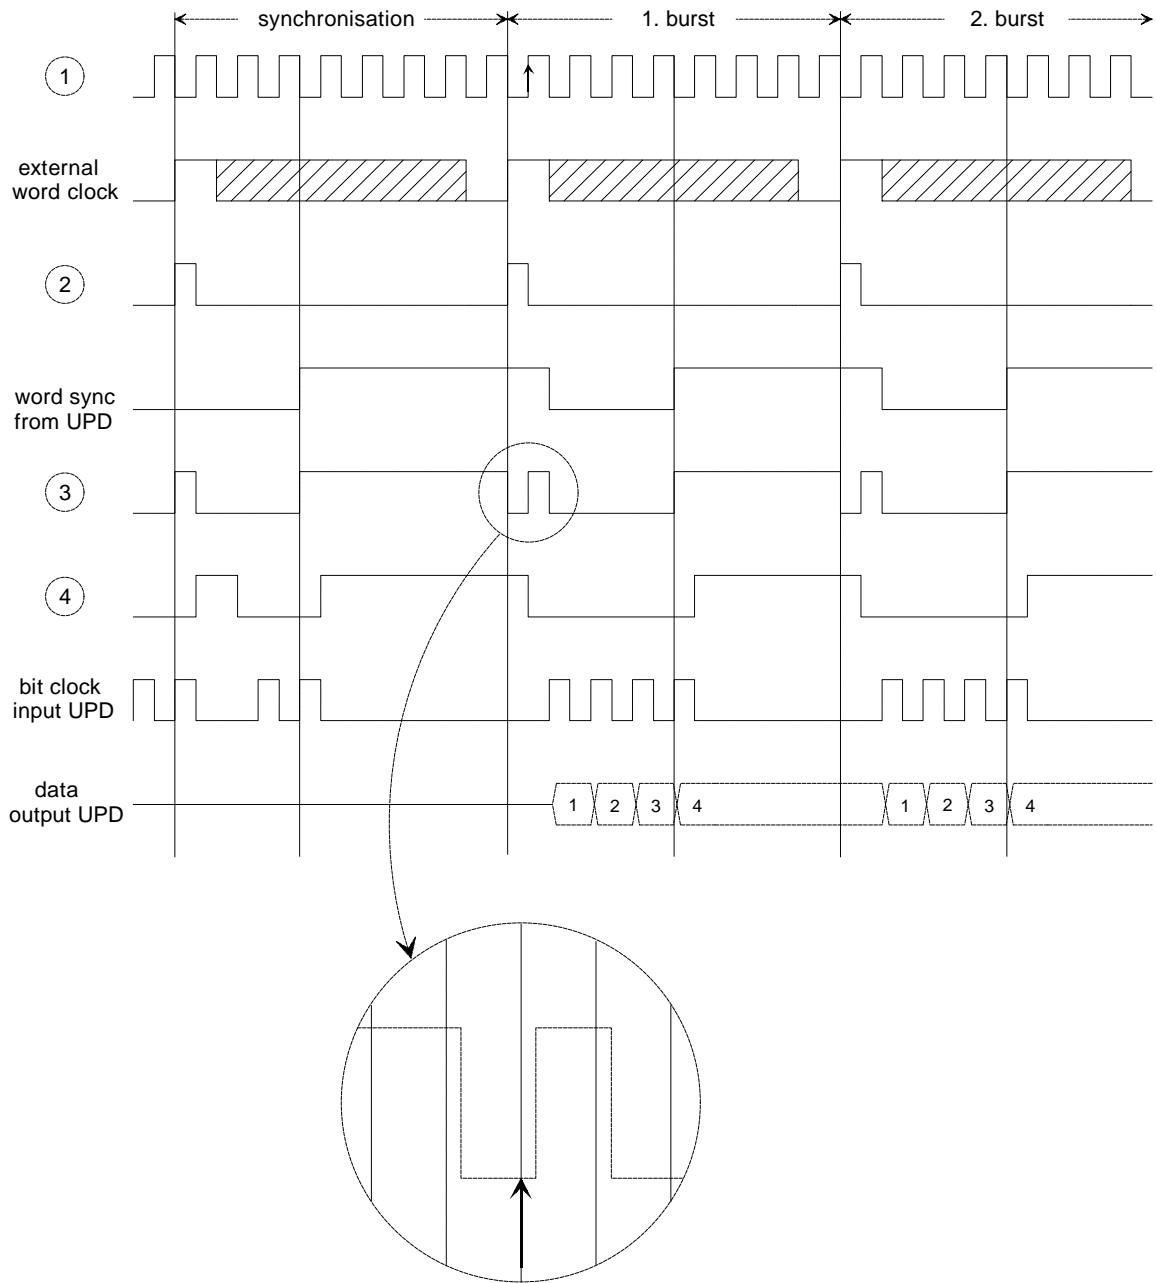

Fig. 5: Timing diagram of external synchronization circuit for UPD data generator
The easiest way of understanding how the external synchronization circuit operates is to look at the timing diagram shown in Figure 5.
The timing diagram in Figure 5 shows that the external word clock signal is transmitted on the falling edge of the clock signal ①. The first data bit is switched over already on the next falling edge of the clock signal. For some applications, it may be necessary to delay the data bits by one clock cycle. This is very easy to do with the circuit described - simply insert an inverter at . For example, the NOR gate of IC 74HCT02, so far unused, can be connected at this point.